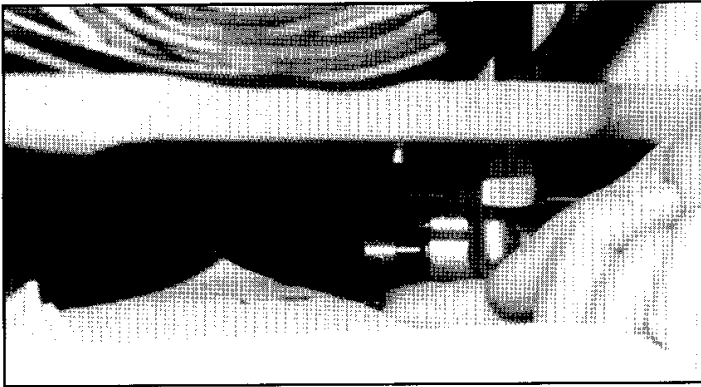

Figure 42
- 18.** Open the gas shut off valve inside the upper dryer (see figures 42 & 43), and check the union connection to the gas valve for leaks using a soap solution, **DO NOT use an open flame to check for gas leaks.** If bubbles occur, tighten the connections and recheck. Make sure not to let solution drip into any electrical connector or component.